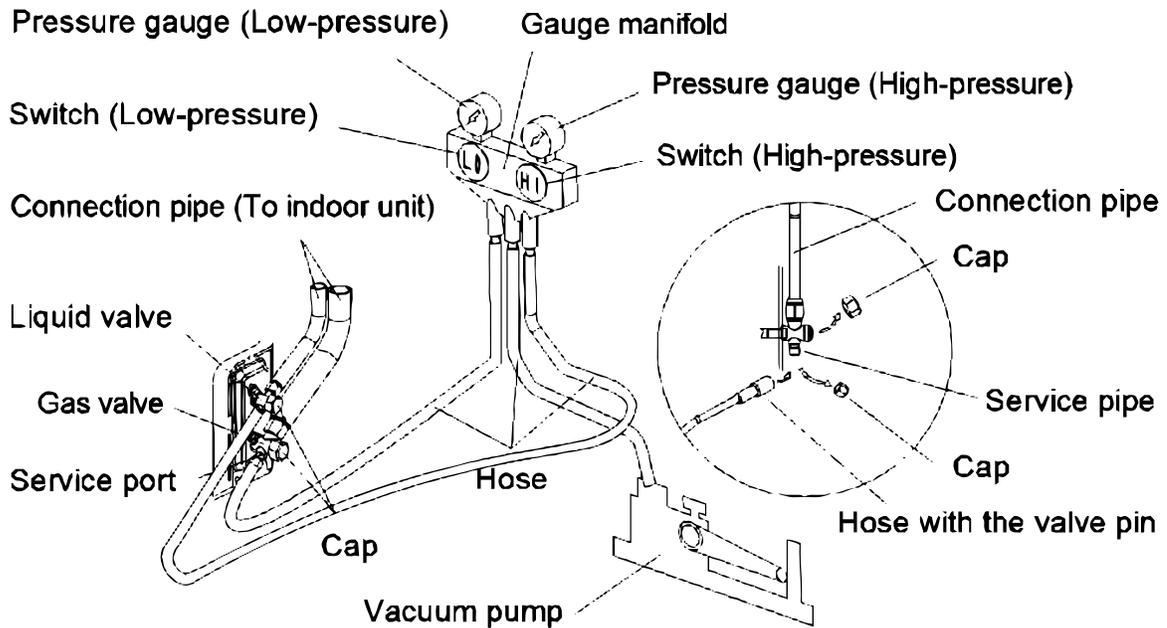

Fig. 2.20
1. Screw on the flare nut of the flared connecting pipe onto the outdoor unit valve. Refer to **Fig. 2.19** & **Fig. 2.20**, using the torque values in the table below.